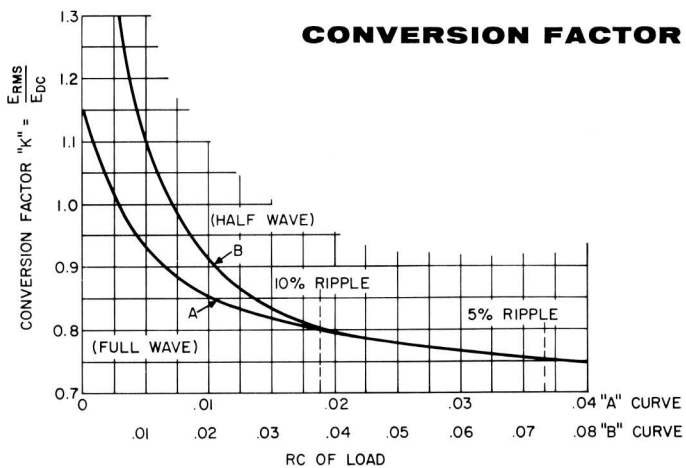

Figure 1.
*For capacitive loads calculate K from Fig. 1 (below)